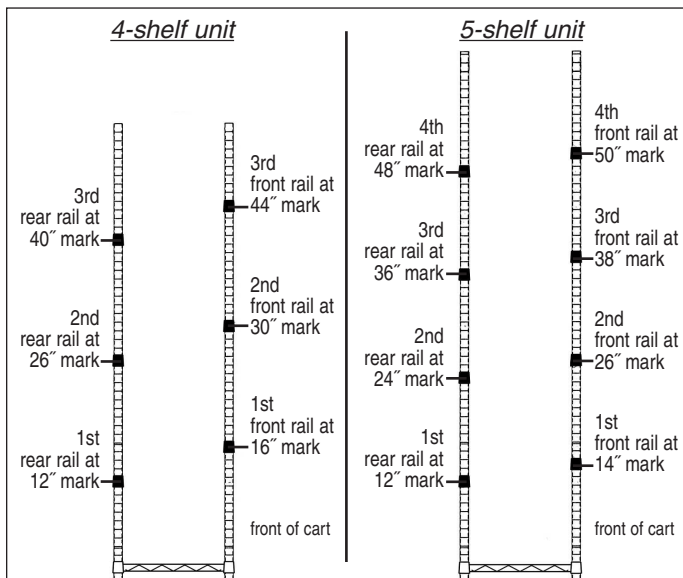

figure 3
- A** Assemble one rail at a time. Refer to *figure 3* for location of split sleeves and rails. Snap split sleeves onto number on each post (2 sets of split sleeves per rail).
- C** Repeat Steps 3a and 3b to assemble all rails. Refer to *figure 3* for location of split sleeves and rails.
- A Start with the bottom shelf. Hook shelf downturn over 1st rear rail (located at the 12" mark on post as shown in *figure 3*).